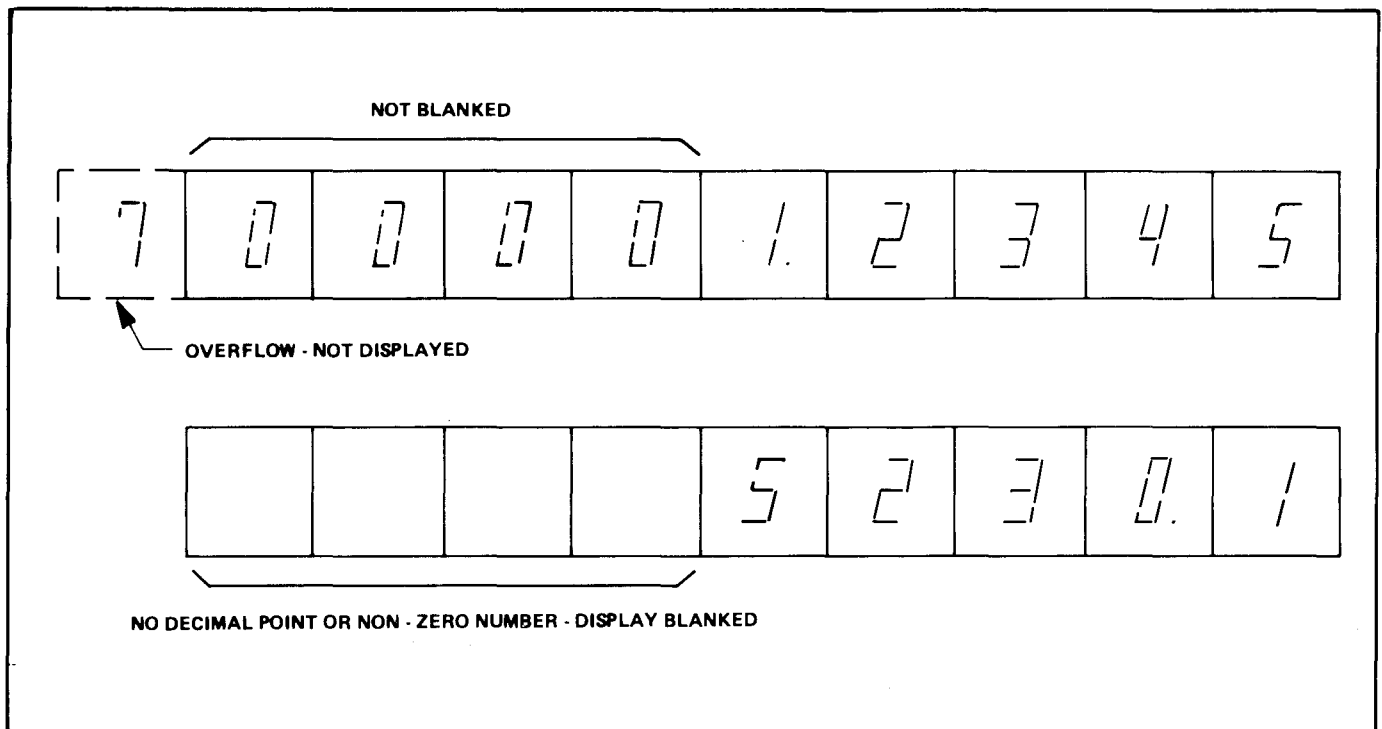

Figure 1.19 - Display Blanking
1.4.8.4 Display blanking occurs when no decimal point or digits other than zero are to the left of digits being counted in the LS7031 counter. When no decimal point or numbers are detected in the LS7031 counter, the strobed ripple blanking input signal (SRBI) is set high. SRBI is synchronized with the strobe lines. SRBI turns off the BCD-to-7-segment converter and no more digits are displayed even though the digits are still being strobed. SRBI is not set if an overflow exists even though the left hand digits are zero. See figure 1.19.